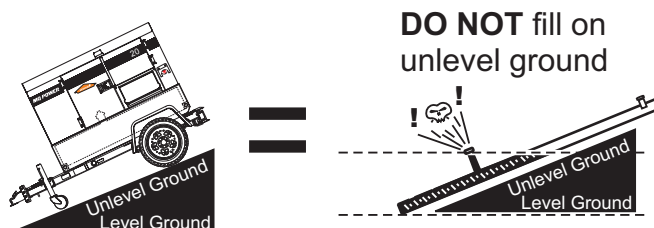

Figure 19. Only Fill On Level Ground
1. **Level Tanks** — Make sure fuel cells are level with the ground. Failure to do so will cause fuel to spill from the tank before reaching full capacity (Figure 19).